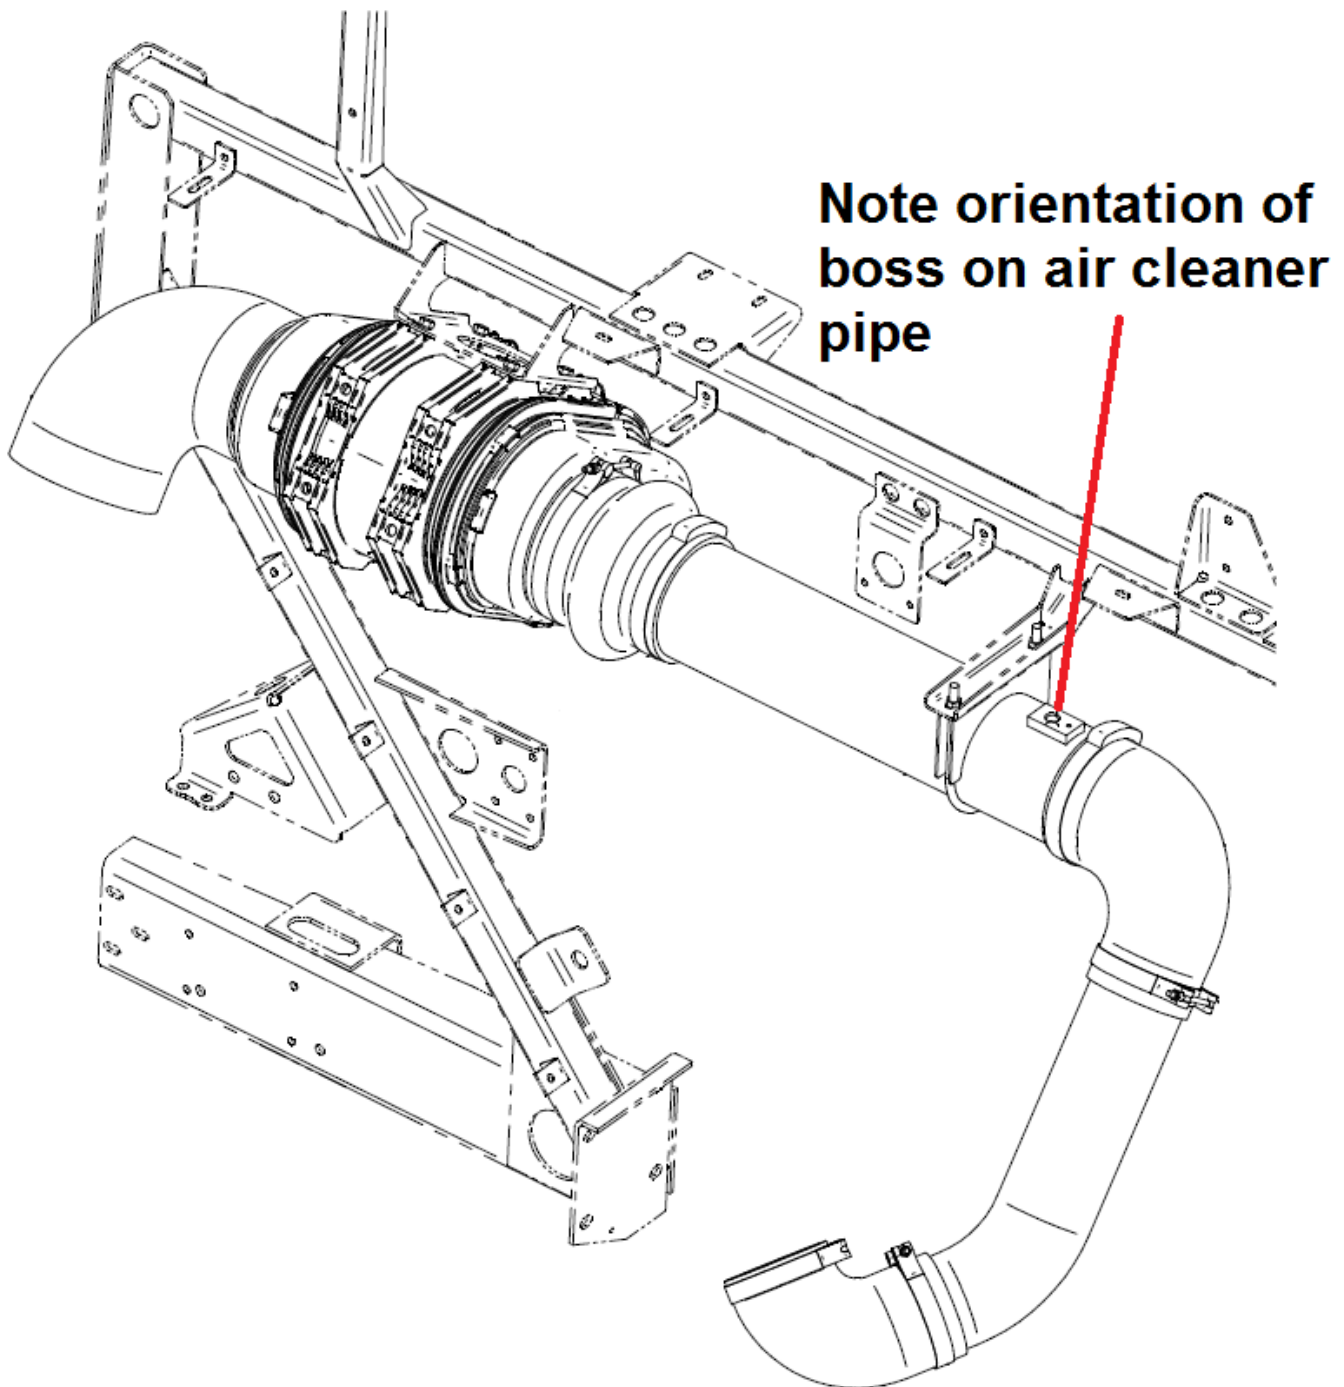

Figure 3: Intake pipe installation, as viewed from inside engine compartment
9. Re-install the tubing, removed and cleaned previously, from the turbo to the air filter canister. Refer to figure 3 for proper installation. Reuse existing hardware.